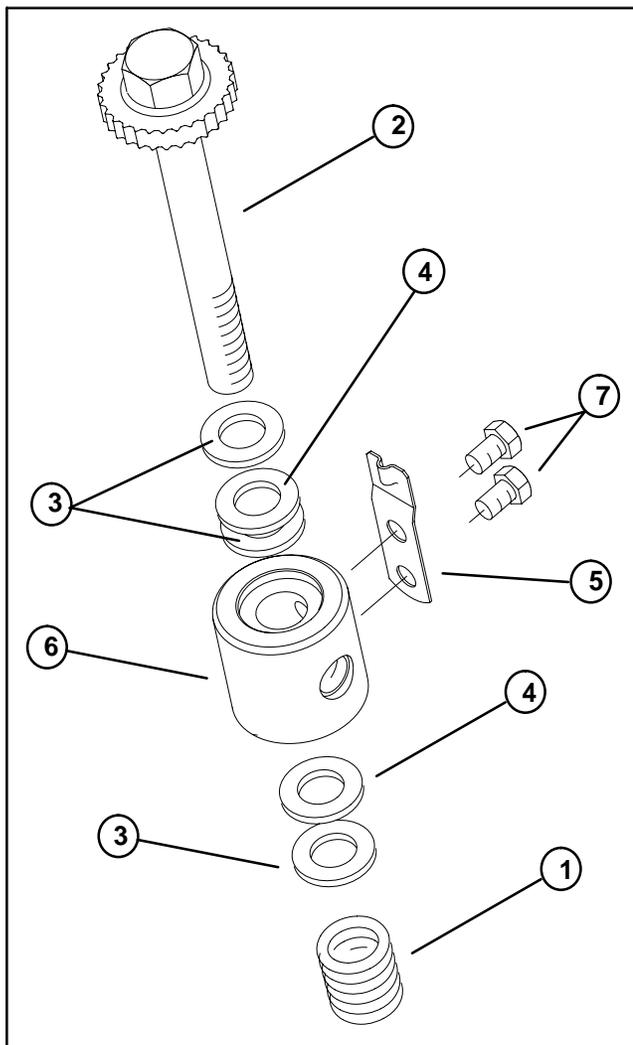

Figure 50
Disassembly (Fig. 50)
Assembly (Fig. 50)
1. Place antiseize lubricant onto the threads of the adjuster (Fig. 50).
2. Screw adjuster (29) into bedbar pivot (50) enough to align holes of the frame bracket and pivot housing (28).
3. Place pivot screws (30) through bushings (31) in the frame bracket and into the pivot housing (28). Tighten screws into the pivot housing.